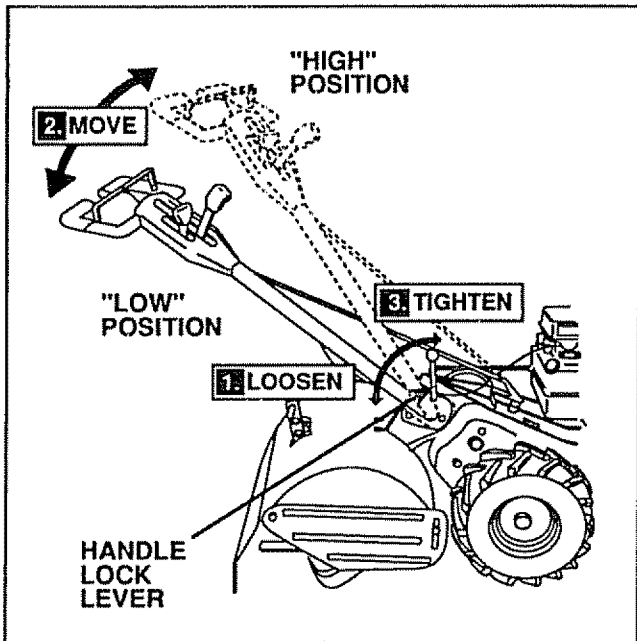

FIGURE 26
- First loosen Handle Lock Lever (Fig. 26).